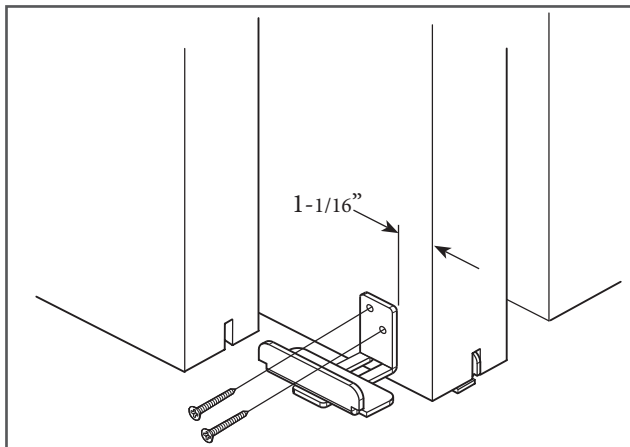

Figure 9
18. Mark a line 1-1/16" from the edge of the door (Figure 9).